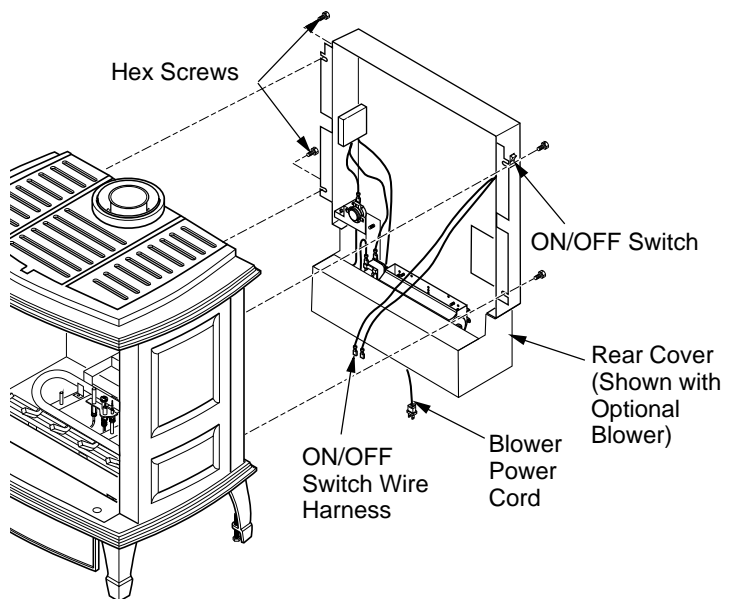

Figure 19 - Installing Rear Cover (Shown with Optional Blower Accessory)
- Using hex screws provided, attach rear cover to back of stove body. See Figure 19. **IMPORTANT:** This rear cover must be securely in place before venting pipes are installed.